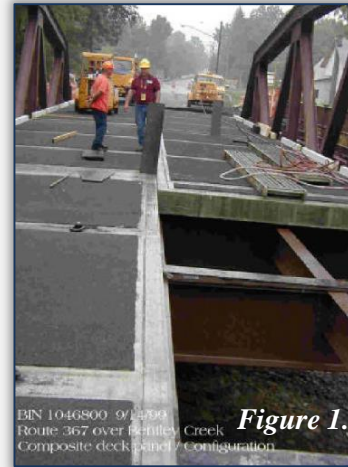

Figure 1.
- Crawford County Bridges (2), Kansas (1999);
- Bentley's Truss Bridge, New York (1999) – *Figure 1*;